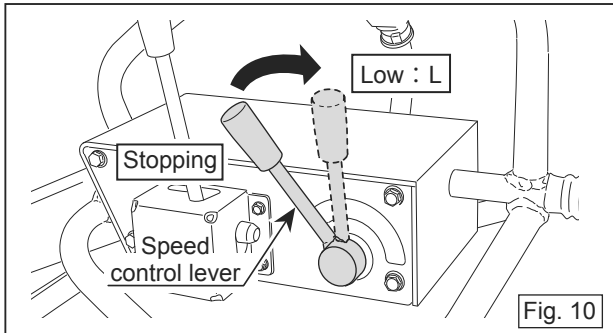

Fig. 10
1. Move the speed control lever to "Low: L (Idling)". (Fig. 10)